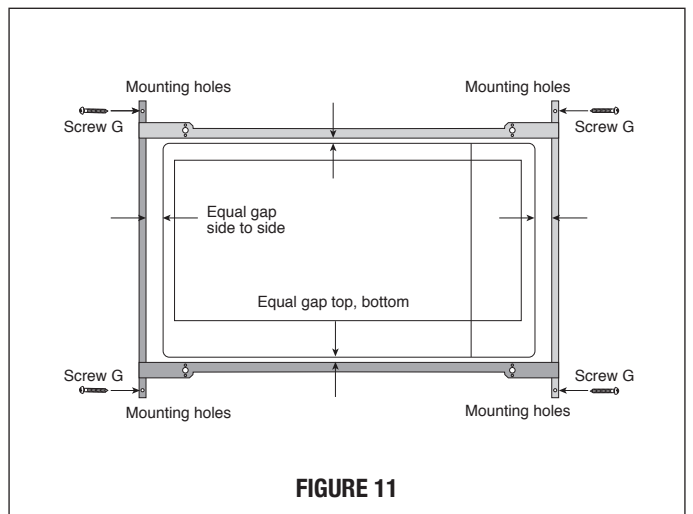

FIGURE 11
- D. **BACK FRAME INSTALLATION:** Position BACK FRAME equal space top to bottom, side to side. Mark for 4 holes on the installed wood cleats, center punch and pre-drill with 1/16" drill bit. Secure frame with 4 SCREWS (G). See Figure 11.